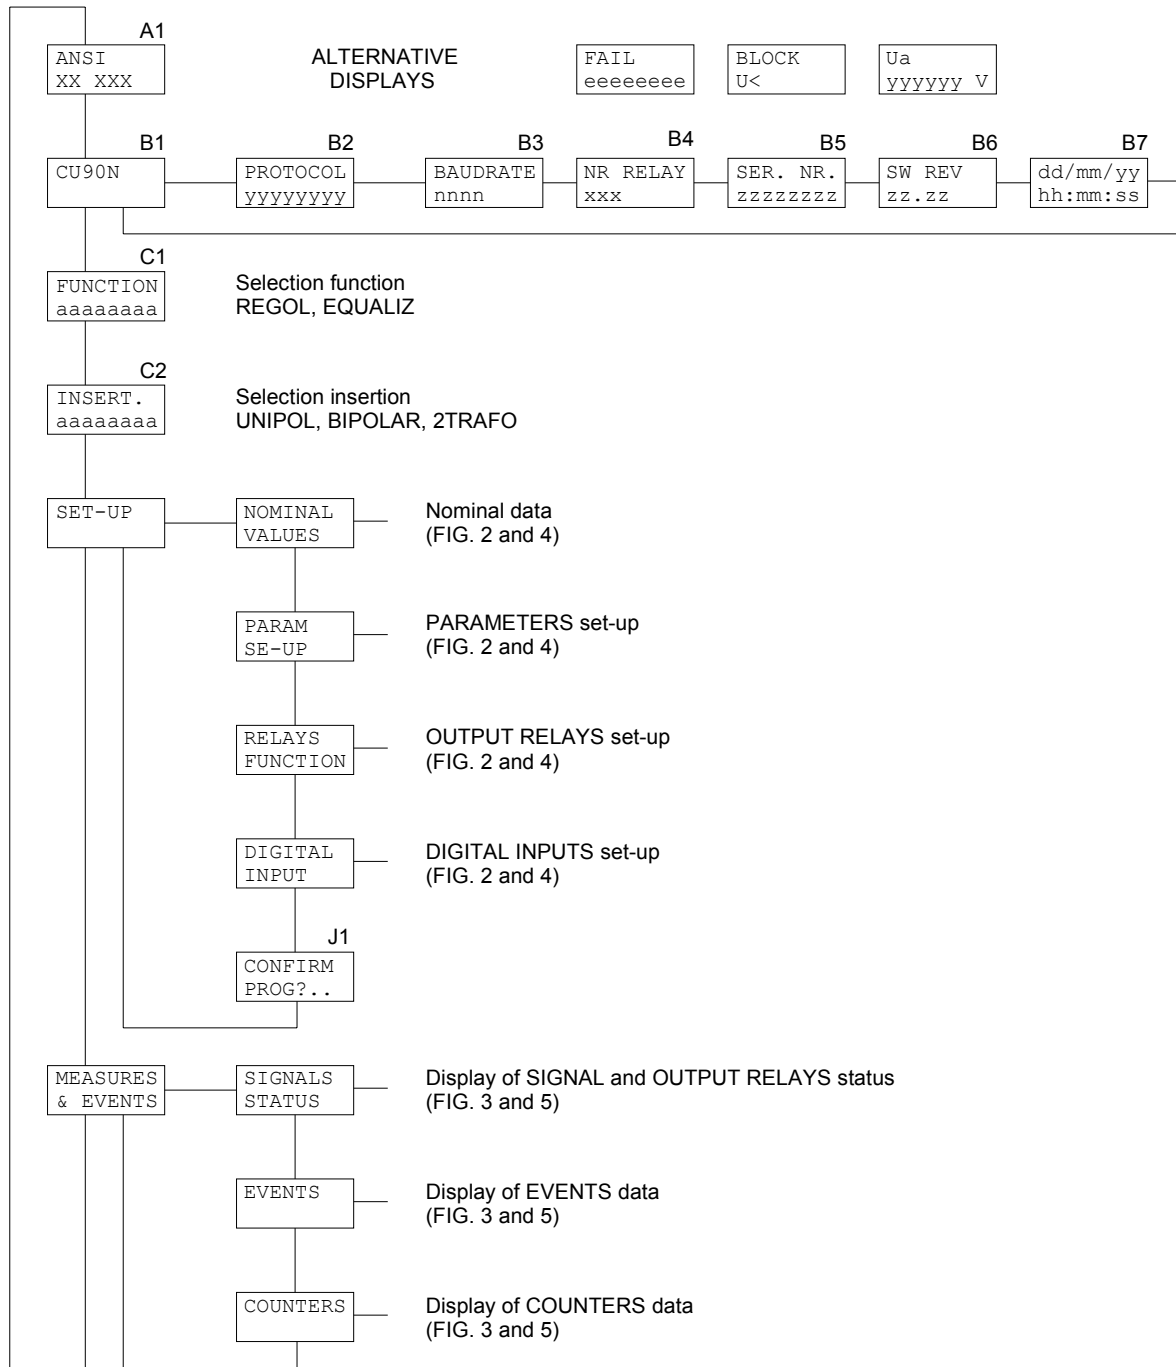

Figure 1
The programmable parameters are showed in Figures 1, 2, 3, 4 and 5 at the following references:
- 5) **CONFIRM** the new unit set-up at the visualization CONFIRM PROG? (Fig. 1, ref. J1) within 5 minutes depressing the push-buttons [**ENTER**] and  up to visualize **YES** and [**ENTER**] again to confirm.
- display on STANDARD MODE (Fig. 1, ref. A1 - par. 5.1)
The contents and the structure of the displayed messages are shown in figures 1, 2, 3, 4 and 5; the references A1, B1, B2 etc. identify specific displayed messages in the figures.
The figure 1 (main menu) is applicable for all operation modes, whilst the remaining figures are applicable as following:
5.3 Address and time (fig. 1)
## 5.4 Operating mode selection and insertion (fig. 1)